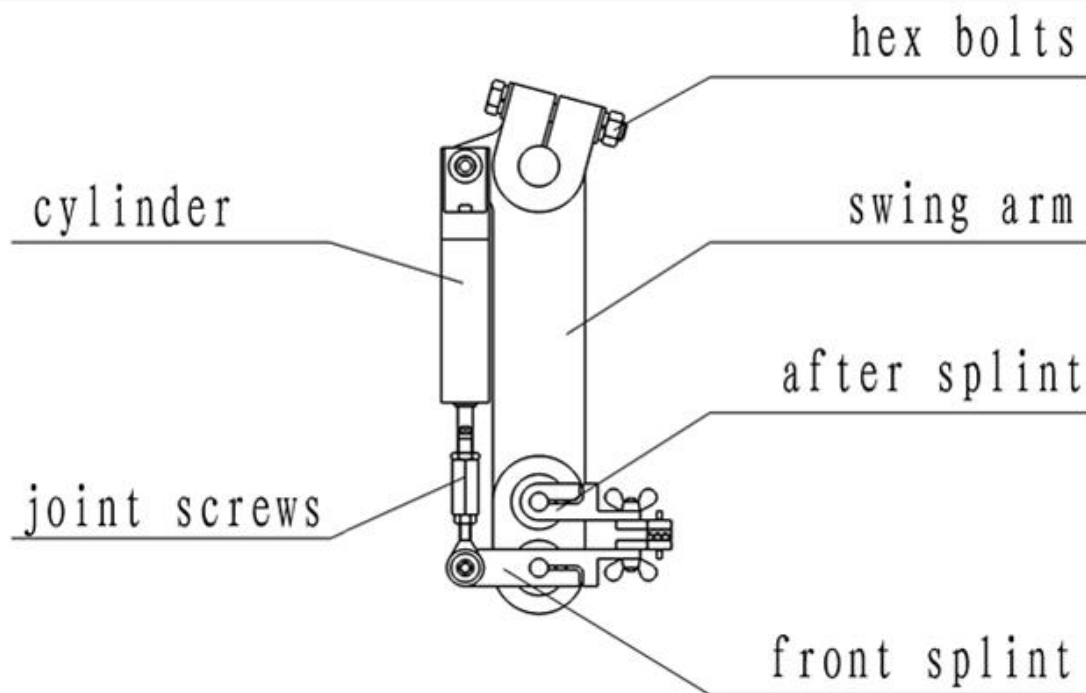

Figure 8
5.3.2 loose lock bolt, adjust the front plate and the plate to the appropriate clamping Angle after twist lock bolt (as shown in figure8 shows).
5.3.3 according to clamping Angle and elastic may adjust properly connecting screw rod (as shown in figure 8 shows).
Sections 7.3.4 loosen hex head bolt, adjust the bag of swing arm to the right position, then lock hexagonal head bolt, make to bag and other parts action coordination (as shown in figure 8 shows).